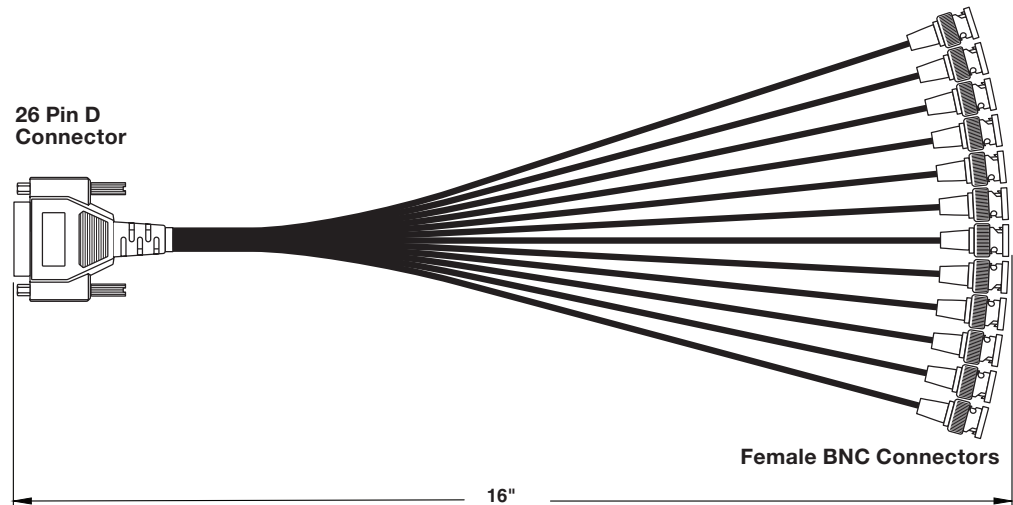

Figure 20. Breakout Cable for Video and S-video Sources
- **Breakout cables (adapters):** Each of the two provided breakout cables has a male 26-pin, high-density, D-type connector attached to 12 flying leads terminated in BNC connectors (see the figure 20 on the next page). The BNC connectors are labeled 1 through 12. (The second breakout cable, if connected, is used only for S-video connections.)